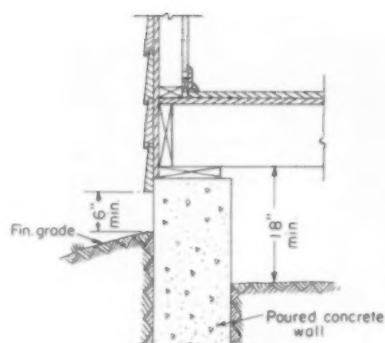

FIG. 3. Easily inspected poured concrete foundation walls or piers⁽¹²⁾
- poured concrete (fig 3) properly reinforced to prevent large shrinkage or settlement cracks will give the greatest protection. Cracks that are $1/32"$ or more in width will permit the passage of termites and should be prevented insofar as possible.